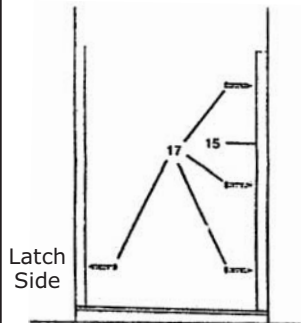

Figure 2
2. Set wall channels in place and secure with #8 x 1 1/2" screws (17) using bottom screw only on latch side (See Figure 2).